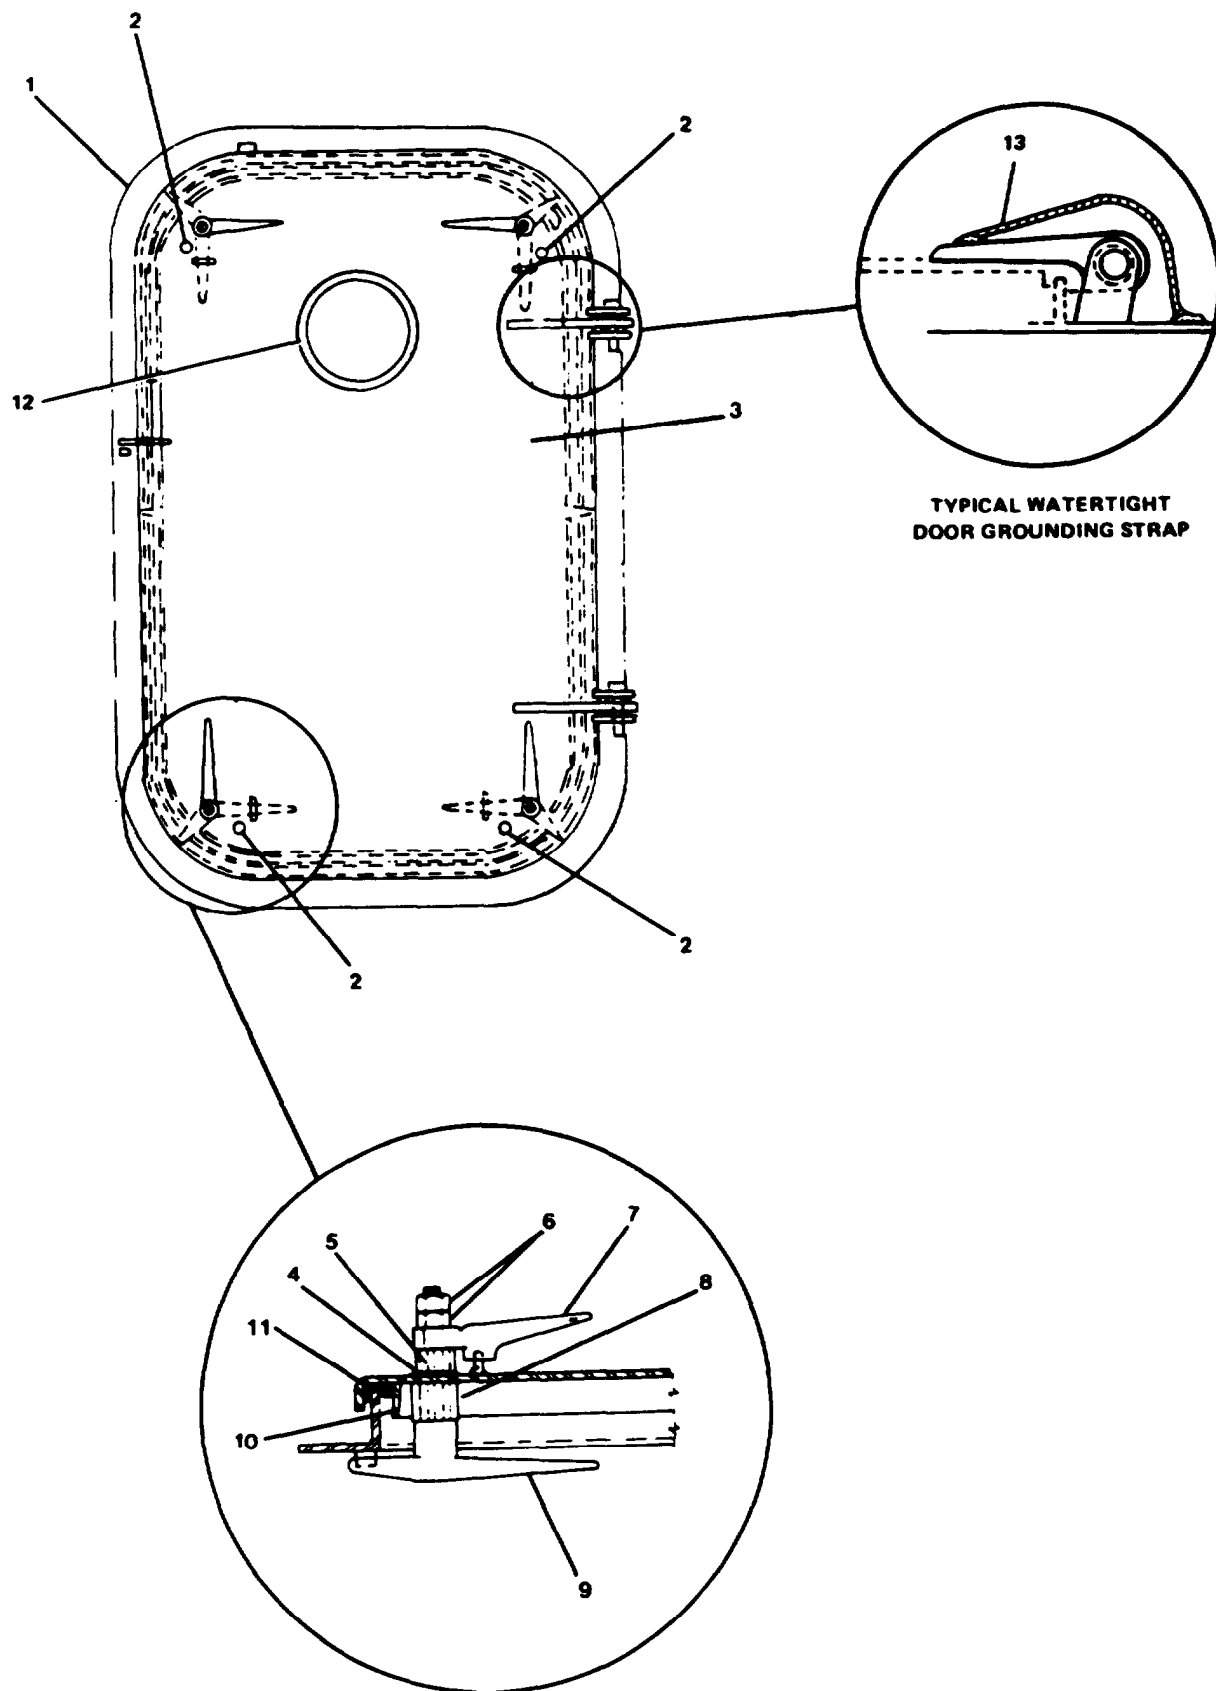

FIGURE 2-169. Repair Watertight Door, Four Dogs (30 x 51)
- a. Remove hex nuts (6, FIGURE 2-169) and handles (7) from door (1).
- b. Remove bronze bushing (5) and preformed packing (4) from door.
- c. Remove dog door closer (9) from door.